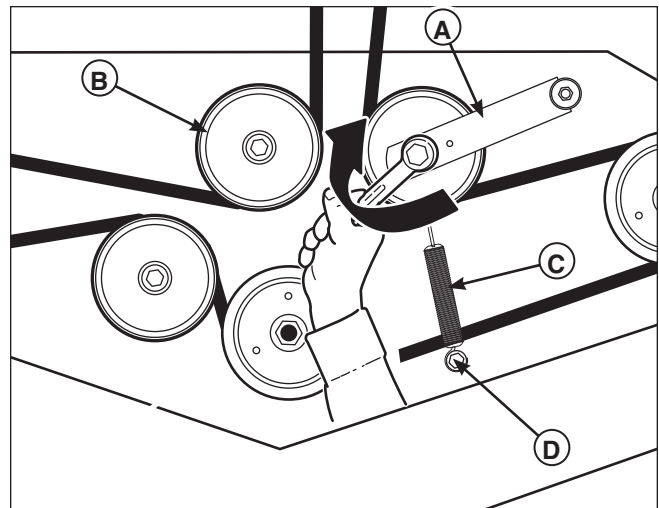
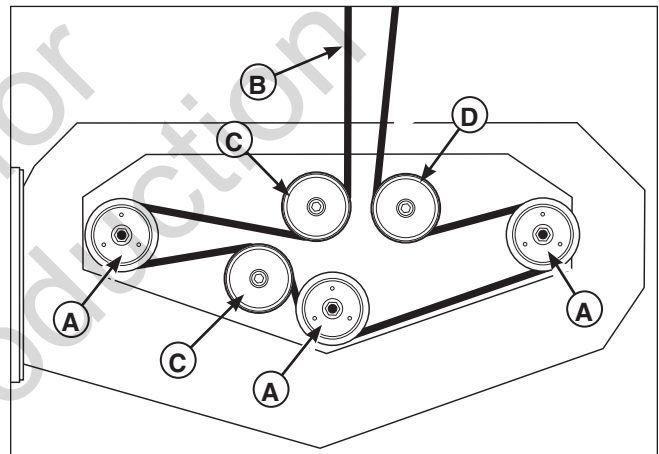

Figure 20. Mower PTO Belt
Figure 21. Mower PTO Belt Routing
3. Using a 3/4" combination wrench, place the box end on the 1/2" nut located on the end of the idler arm (A, Figure 20). Carefully rotate the breaker bar **CLOCKWISE**, which will relieve the tension on the belt exerted from the idler arm.
4. Slide the drive belt over the edge of the stationary idler pulley (B). Carefully release the tension on the breaker bar until the idler arm comes to a stop.
7. Install the drive belt on the PTO pulley, the spindle pulleys, and all idler pulleys except the stationary pulley. Carefully rotate the 3/4" combination wrench **CLOCKWISE** and install the belt on the stationary idler pulley. Carefully release the tension on the 3/4" combination wrench. The belt should be routed exactly as shown in Figure 21.